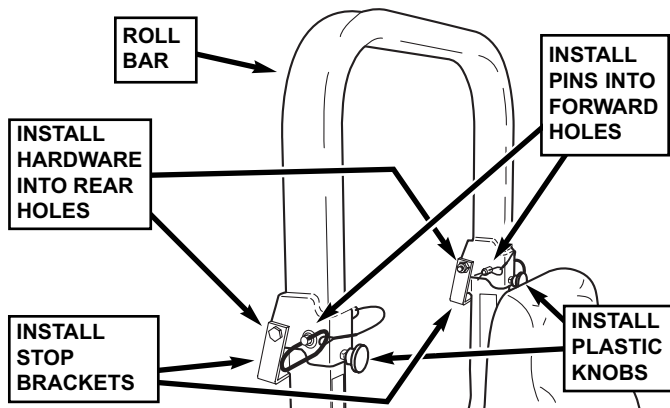

FIGURE 4
- B.** Attach roll bar to side bars, securing with two 1/2-13 x 3-3/4" hex bolts and lock nuts through the rear hinge holes. See Figure 4. **NOTE:** Slip stop brackets over hinges before installing hardware. See Figure 4.
- C.** Raise roll bar to fully upright position, aligning locking holes in roll bar with corresponding holes in side bars. Insert locking pin through each forward hole, and secure with connected bridge pin. Install plastic knobs into threaded holes in front of roll bar, and tighten securely. See Figure 4.